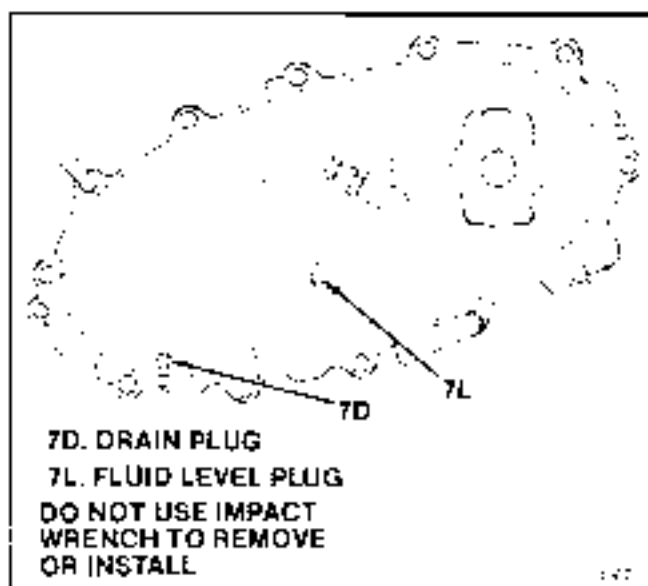

Figure 2-1. Drain and Fluid Level Plugs
- a. Wipe fluid level plug (see figure 2-1) and surrounding area clean.
- a. Wipe fluid level and drain plugs (see figure 2-1) and surrounding areas clean.
- e. Place drain pan under transfer case and remove transfer case drain and fluid level plugs (see figure 2-1). Drain all fluid from transfer case and re-install plugs.
- f. Disconnect wiring from 4WD switch on transfer case cover (16).
- g. Disconnect shift linkage from transfer case shift lever (47).
- h. Disconnect speedometer cable from transfer case cover (16).
- i. Disconnect breather hose from breather barb (85) on transfer case.
- j. Disconnect front driveshaft from transfer case front output yoke (83).
- k. Disconnect rear driveshaft from transfer case rear output yoke (4).
**Make sure transfer case is completely supported by jack or stand before removing bolts (101) attaching transfer case to transmission. Do not allow transfer case to "hang" from transmission through splined shafts or damage may result.**
- m. Remove bolts six (101) attaching transfer case to transmission adapter.